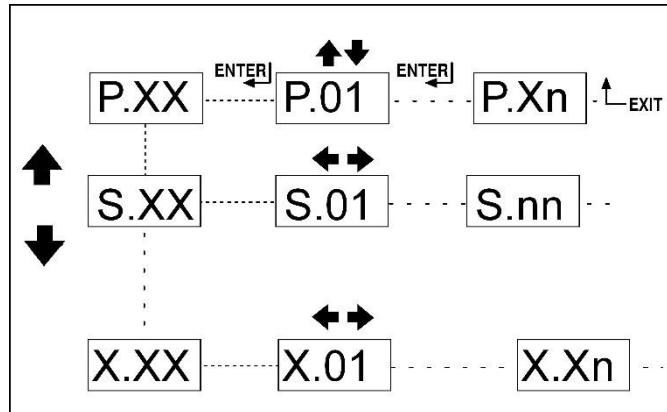

Fig. 2 – Navigation among modes
5.4.3 Mode navigation (ref. to fig. 2)